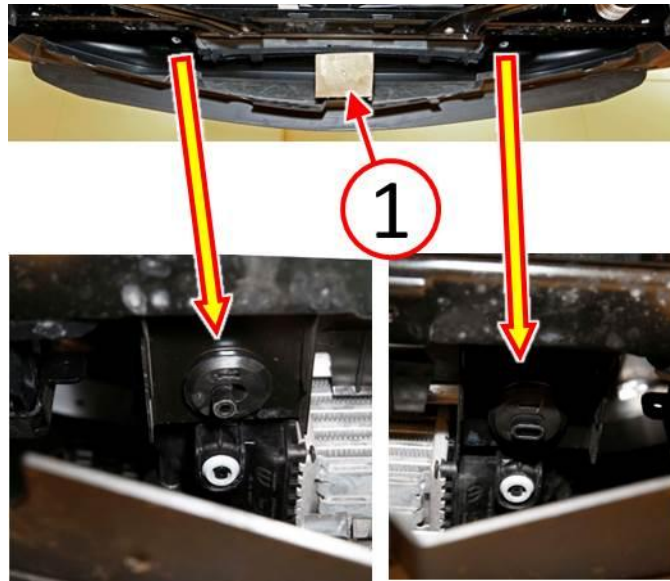

Fig. 2 Use Wood Block To Provide Access
3. Use a wood block (1) or equivalent to hold the front bumper fascia lower edge down in order to access the radiator support brackets (Fig. 2).